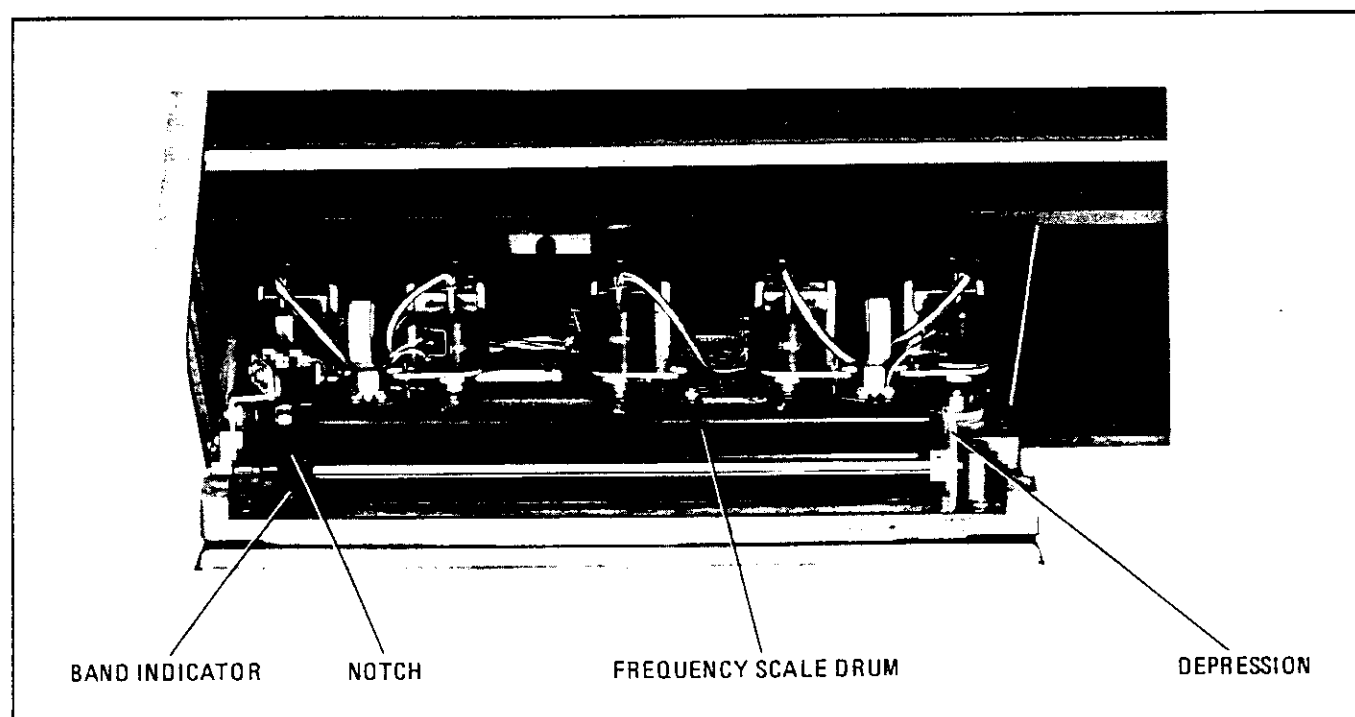

Figure 2-5. Mainframe Front Panel in Open Position
- Swing front panel forward and down to position shown in Figure 2-5.
- Insert frequency scale so key (a 1/16-inch long, 1/2-inch wide protrusion) on left end of scale fits into notch, shown in Figure 2-5 in roller on left-hand edge of drum.